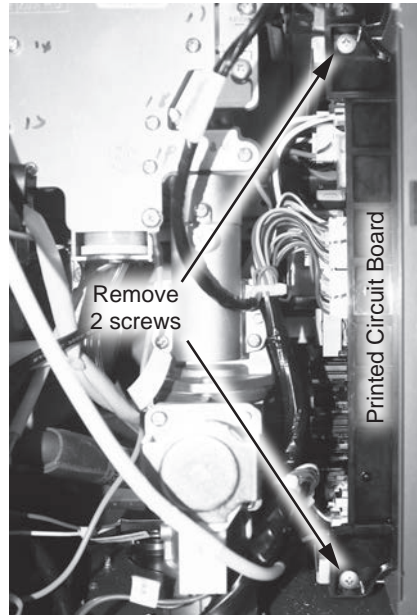

Figure 34 - Removing PCB screws
- 10 Locate the Printed Circuit Board (PCB) on the right side of the water heater. Use a Phillips screwdriver to remove the two screws securing the PCB. Place screws aside in a safe place for reinstallation. See Figure 34.